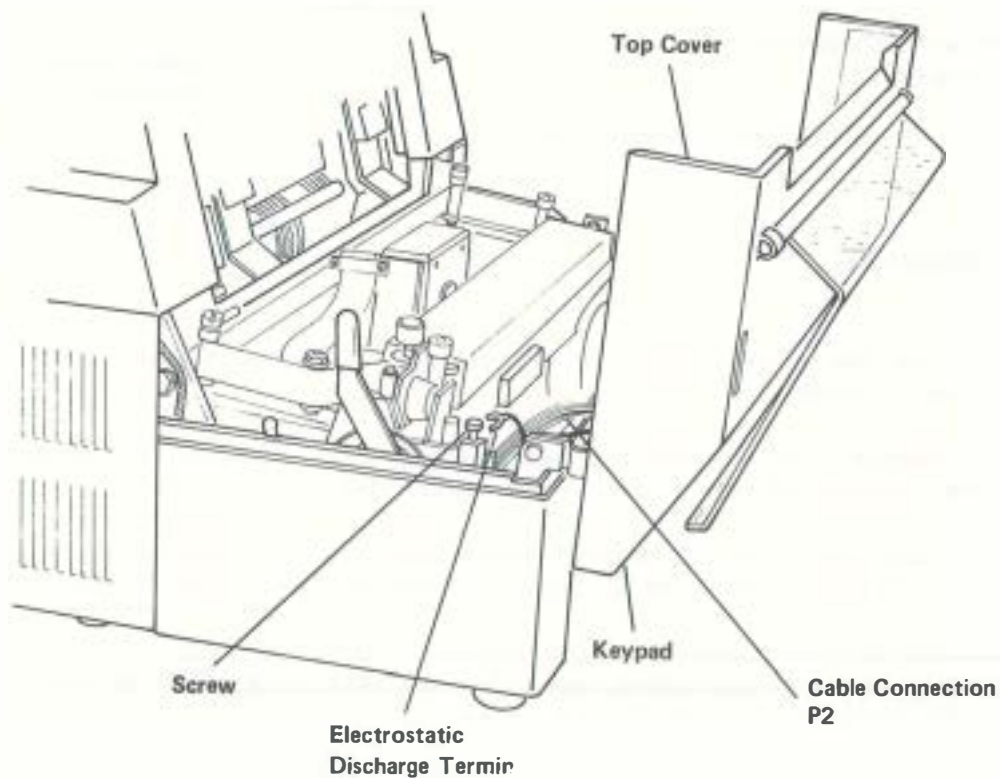
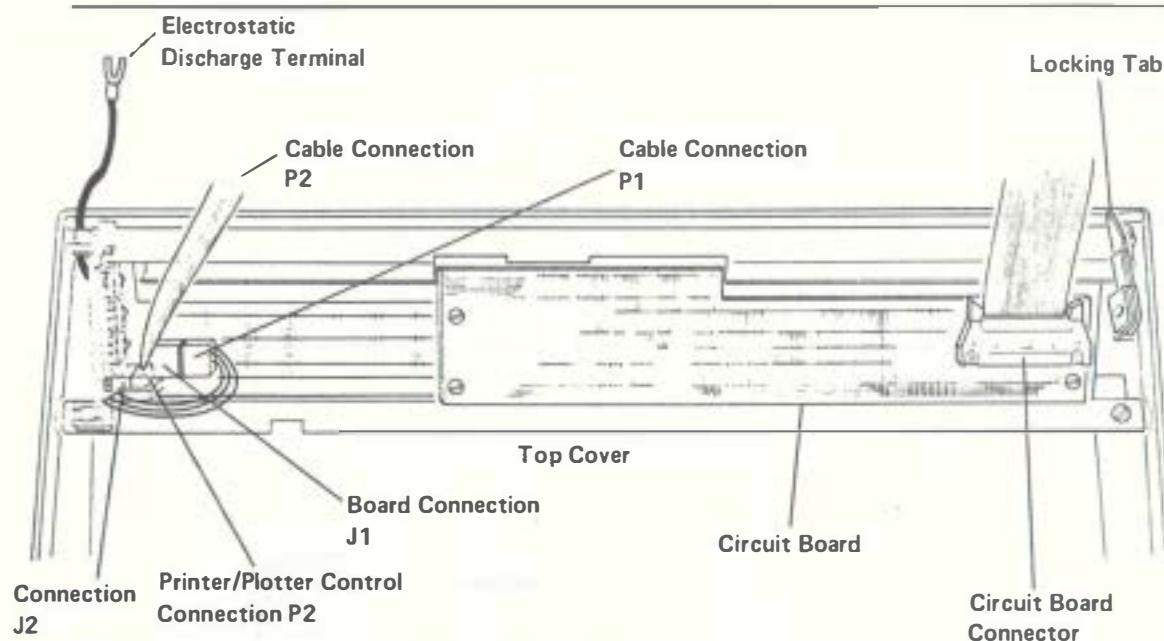

Figure 5-14A. Printer/Plotter Top Cover.
Figure 5-14B. Keypad and Connections
3. Reconnect the keypad connector and the two printer/plotter connectors (if present) to the front of the planar board. See Figure 5-14A.
The keypad is located on the top front cover of the printer/plotter. See Figure 5-14A. The keypad, top cover, and keypad circuit board are a complete unit. See Figure 5-14B.
3. Fold down the clear printer/plotter cover (if present) and open the printer/plotter cover by lifting it from the rear. See Figure 5-14A.
4. Disconnect the circuit board connector from the right side of the circuit board by spreading apart the two retaining clips on each side of the connector. See Figure 5-14B.
5. Disconnect the printer/plotter control connector on the left side of the keypad. See Figure 5-14B.
3. Reconnect the printer/plotter control connector (J2). See Figure 5-14B.